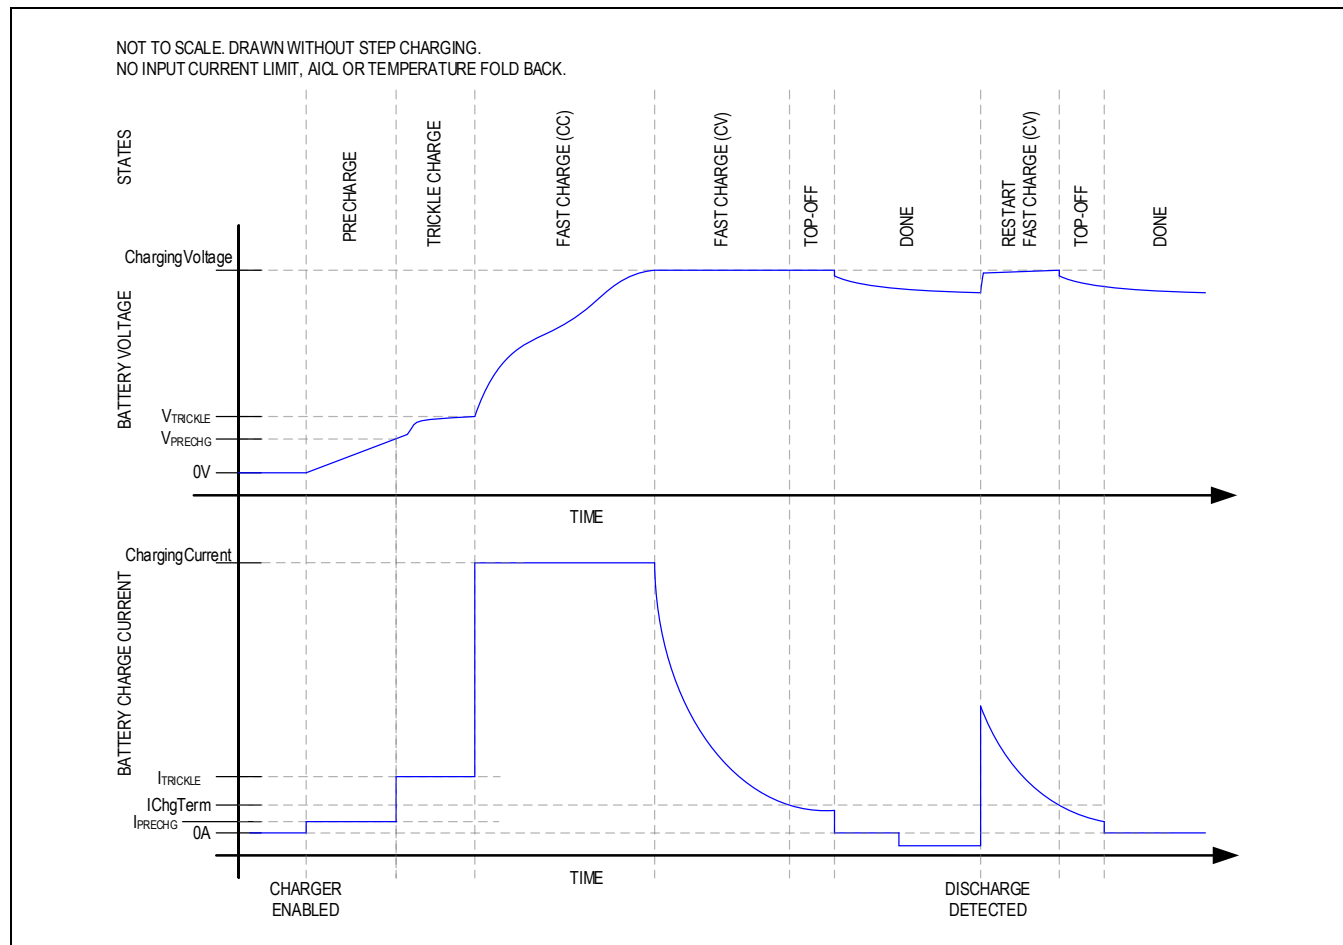

Figure 1. Li+/Li-Poly Charge Profile
Lithium-ion/polymer batteries are very common in various portable electronic devices because they have a very high energy density, minimal memory effect, and low self-discharge. However, care must be taken to avoid overheating or overcharging these batteries to prevent damage, potentially resulting in dangerous outcomes/explosive results. By operating in safe temperature ranges, at safe voltages and under safe current levels, the overall safety of the lithium-ion/polymer batteries can be assured throughout the life of the battery. Using AccuCharge technology, the MAX77972 controls the charging voltage and current dynamically based on the JEITA charge profile, step-charging and battery temperature. The charge current is reduced at low battery voltage (prequel), low and high temperature, or when the battery voltage reaches the battery regulation voltage. Figure 1 shows an example of the charge profile without step charging and JEITA profile changing the target charge current and charge voltage. Real time target charging current and charging voltage are available at ChargingVoltage and ChargingCurrent registers, automatically modulated by temperature and step-charging. See nIChgCfg1/2, nVChgCfg1/2, nStepVolt, nStepCurr, and nTPrtTh1, nTPrtTh2 for configuration details in Fast Charge - Step Charging and FAST CHARGE - JEITA sections.
**FAST CHARGE/STEP CHARGING:** The battery is charged to this terminal voltage in Fast Charge stage. Charging profile shown in Figure 1 has disabled step charging for simplicity. See Step Charging section for detailed configurations.
The charging profile shown in Figure 1 has step charging disabled for simplicity. See Step Charging section for detailed configurations.